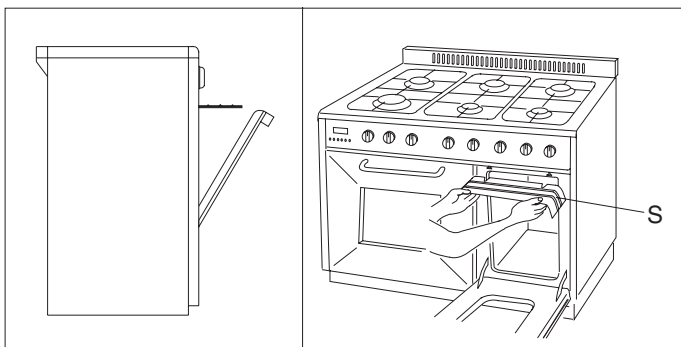

Fig. 6
- Fit the knobs deflector **S** and place the door in half-open position see fig. 6 .
In this case the deflector **S** shown in fig. 6 is not supplied.